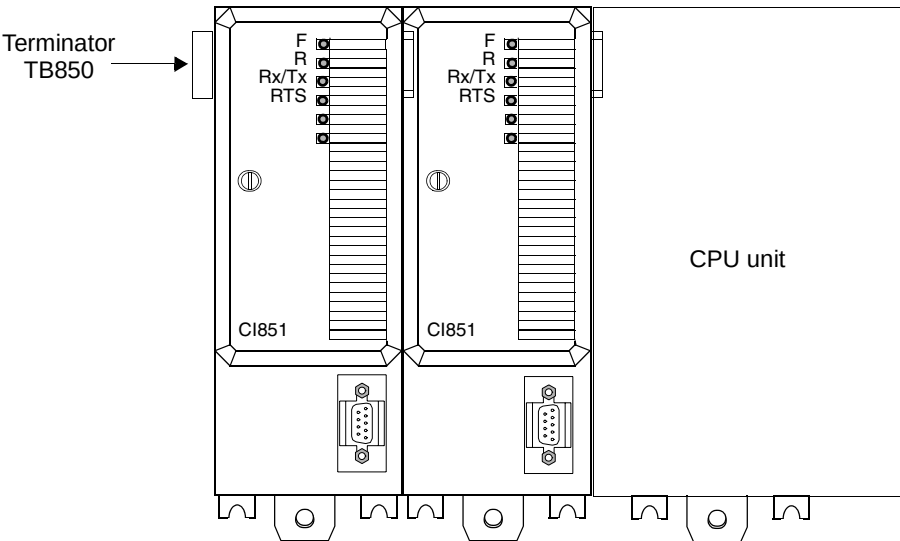
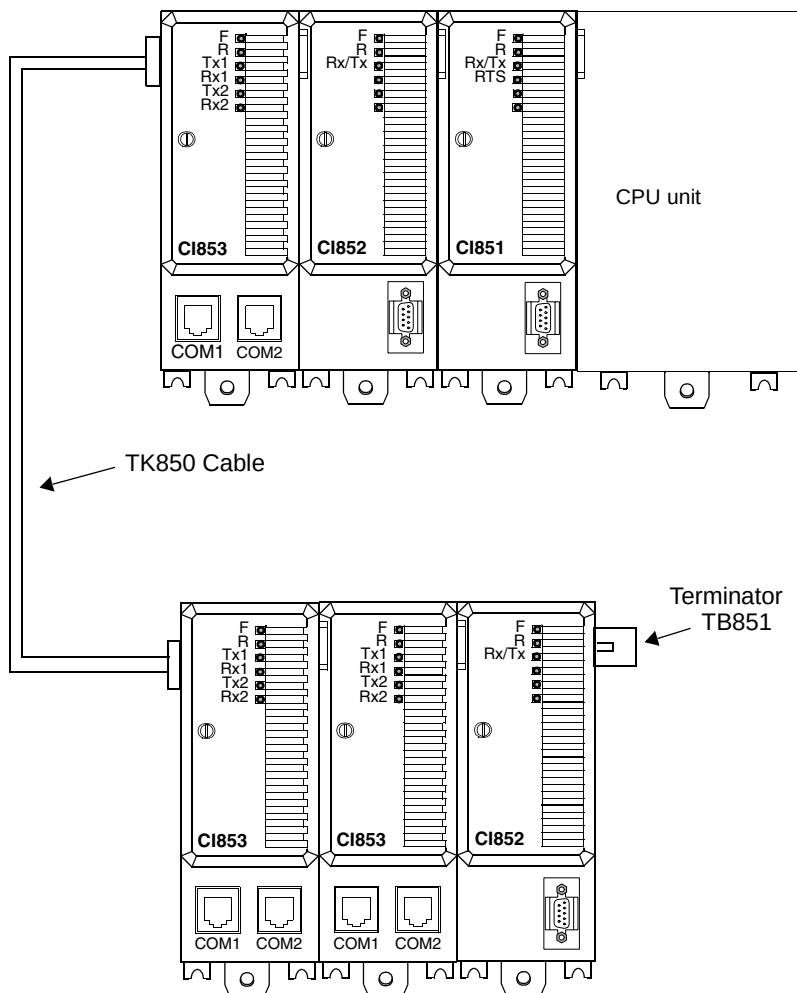

Figure 13. TB850 Terminator for CEX-bus (male)
Figure 14. TB851 Terminator for CEX-bus (female)
- a. For CEX-bus TB850 (TB851 if cable TK850 is used), see Figure 13 on page 58 and Figure 14 on page 59. If no units are used on the CEX-bus, no bus termination is required.